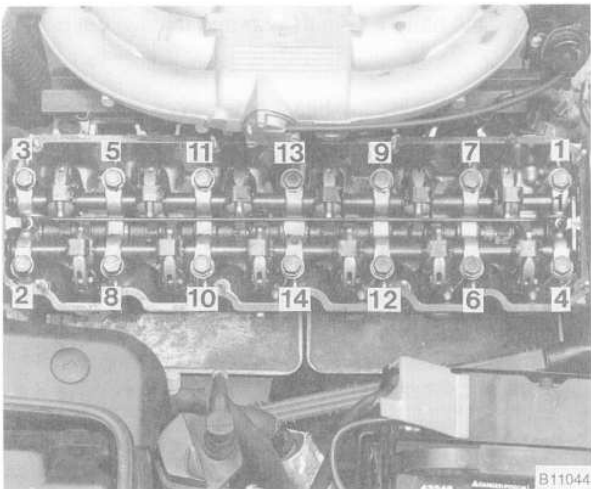

Fig. 5. Cylinder head bolt loosening sequence.
14. Gradually and evenly loosen and remove the cylinder head bolts using the sequence shown in Fig. 5. Remove the cylinder head.